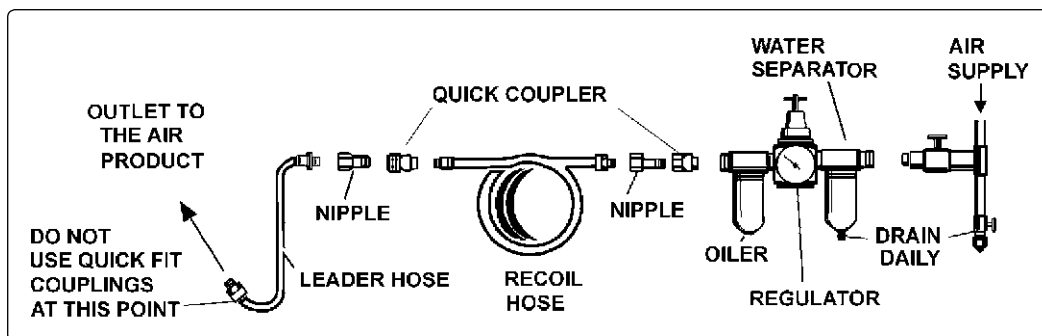

fig.1
4.1.4. Clean air inlet filter weekly. Recommended hook-up procedure is shown in fig 1.
Vibration may cause failure if a quick change coupling is connected directly to the air sander. To overcome this, connect a leader hose to the sander. A quick change coupling may then be used to connect the leader hose to the air line recoil hose. See figs.1 & 2.